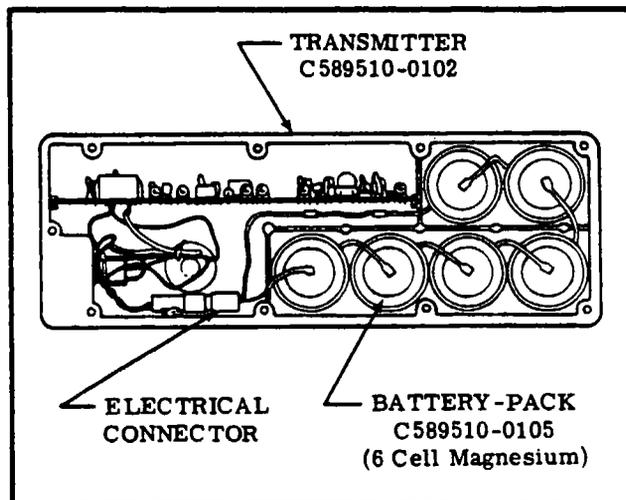

Figure 16-12. Magnesium 6 Cell Battery-Pack Installation
16-81. REMOVAL AND INSTALLATION OF MAGNESIUM SIX (6) CELL BATTERY-PACK. (Refer to figure 16-12.)